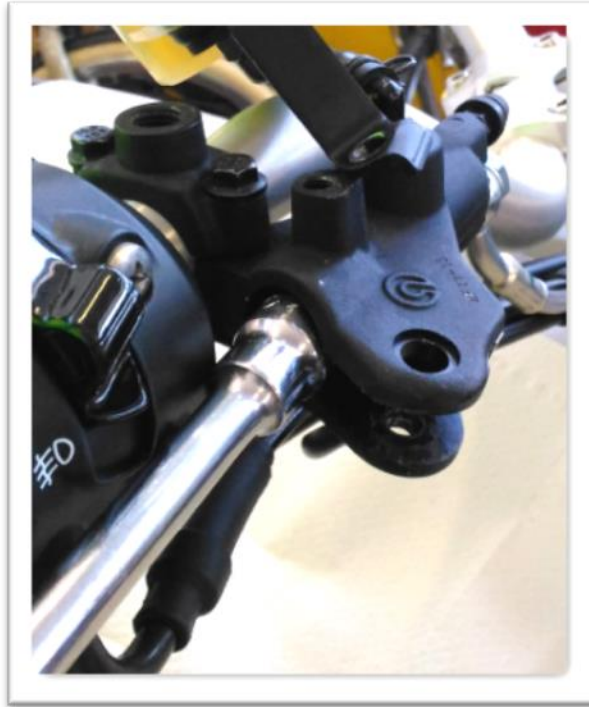

Figure 5
7. Manually push the pushrod (6), dust boot (7) and return spring (5) assembly fully into its seat in the master cylinder housing. If necessary, use a 13 mm socket wrench with a maximum outer diameter of 18.8 mm (see figure 5) to push the boot into its seat.